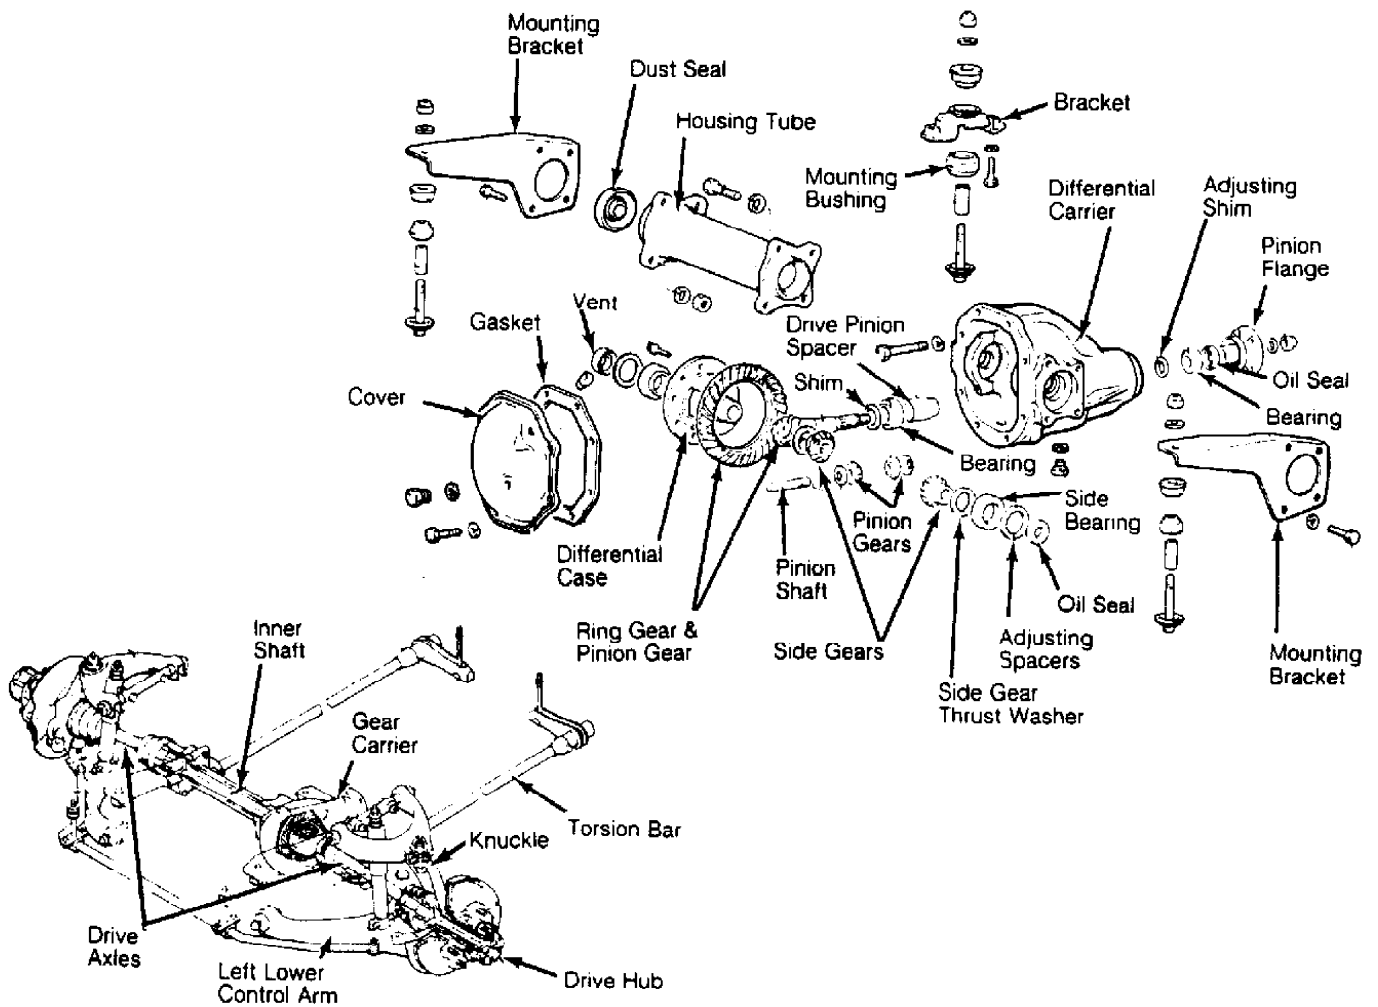

Fig. 1: Front Drive Axle & Suspension
2) Remove drive shaft. Remove differential mounting brackets at differential and frame. See Fig. 1. Disconnect front crossmember from frame. Remove differential carrier assembly and front crossmember. Remove differential carrier from front crossmember.
1) Remove right drive axle. See DRIVE AXLES R & I in this article. Remove inner shaft from differential carrier. Pry dust seal from housing tube assembly using a screwdriver if replacement is required. See Fig. 1.